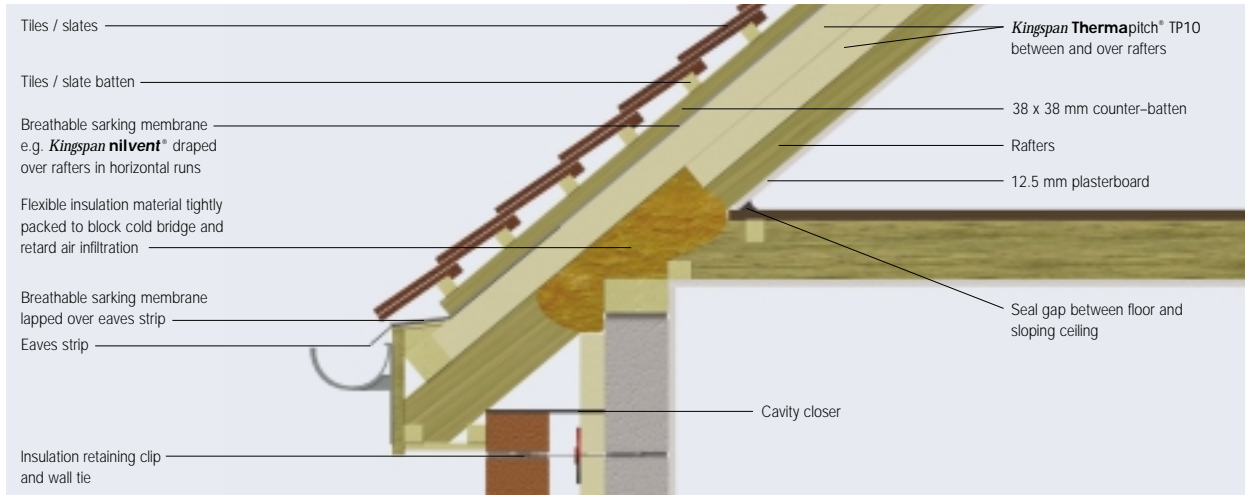

Figure 6a Overhanging Eaves Detail – Section Perpendicular to Ridge
**Kingspan Thermapitch® TP10** should be tightly butted. Boards may be laid either across or down the line of the rafters and should preferably be laid break bonded. All board joints running from eaves to ridge must occur over rafters. There is no necessity to tape board joints. A preservative treated stop rail should be secured to the rafters close to the eaves (see Figures 6a & 6b).